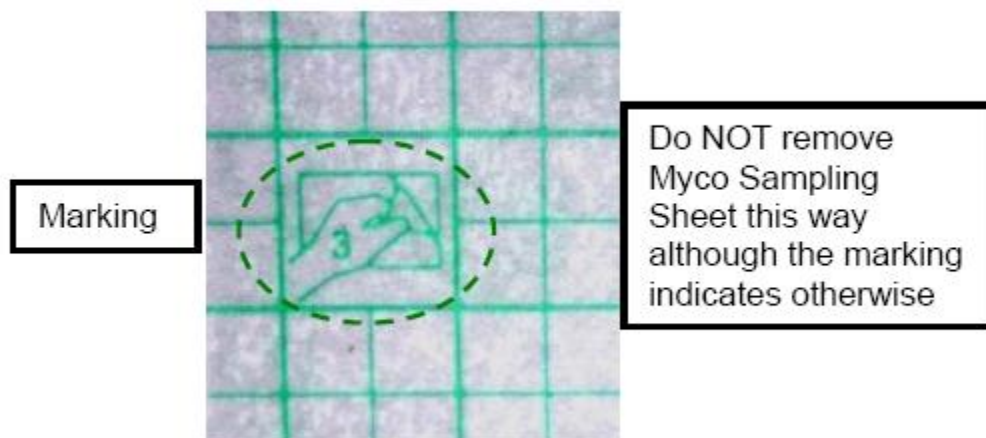

Figure 6. The marking on Myco Sampling Sheet
<p>Removing Myco Sampling Sheet in the direction the marking indicates will separate the upper layer with the grid from the adhesive layer. Refer to Figures 6.</p>
- 2.5 Hold Myco Sampling Sheet's edge that is attached to the backing paper labeled 2 and remove Myco Sampling Sheet from the skin as shown in Figure 5. (Do not remove it in the direction depicted on the backing, shown in Figure 6)